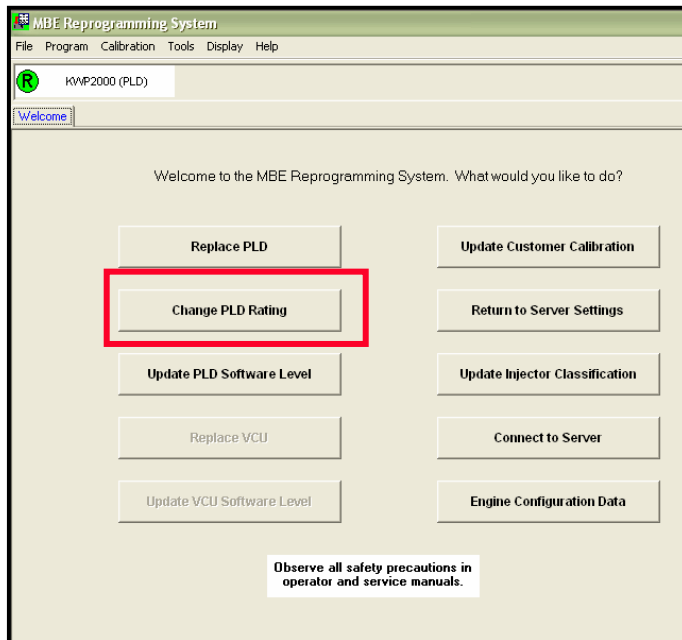

Figure 2 Re-Flashing PLD
5. Re-flash the PLD with new fuel map to turn off the sensor. Select “Change PLD Rating” in the MBE Reprogramming System (refer to figure 2 below).